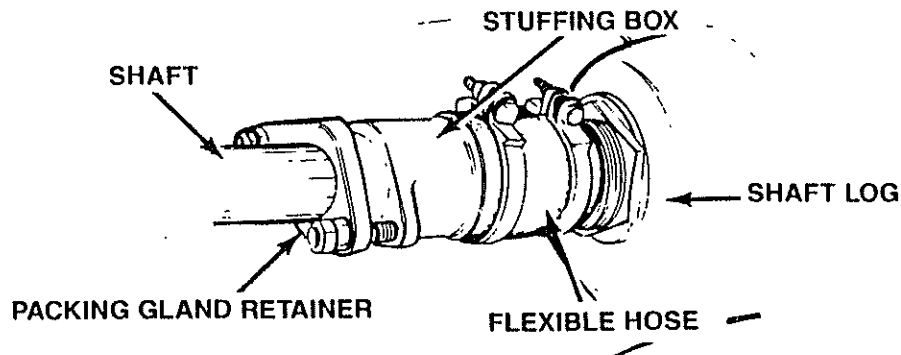

Figure 5-5 Stuffing Box
9. See Figure 5-5. Check stuffing boxes for leaks.